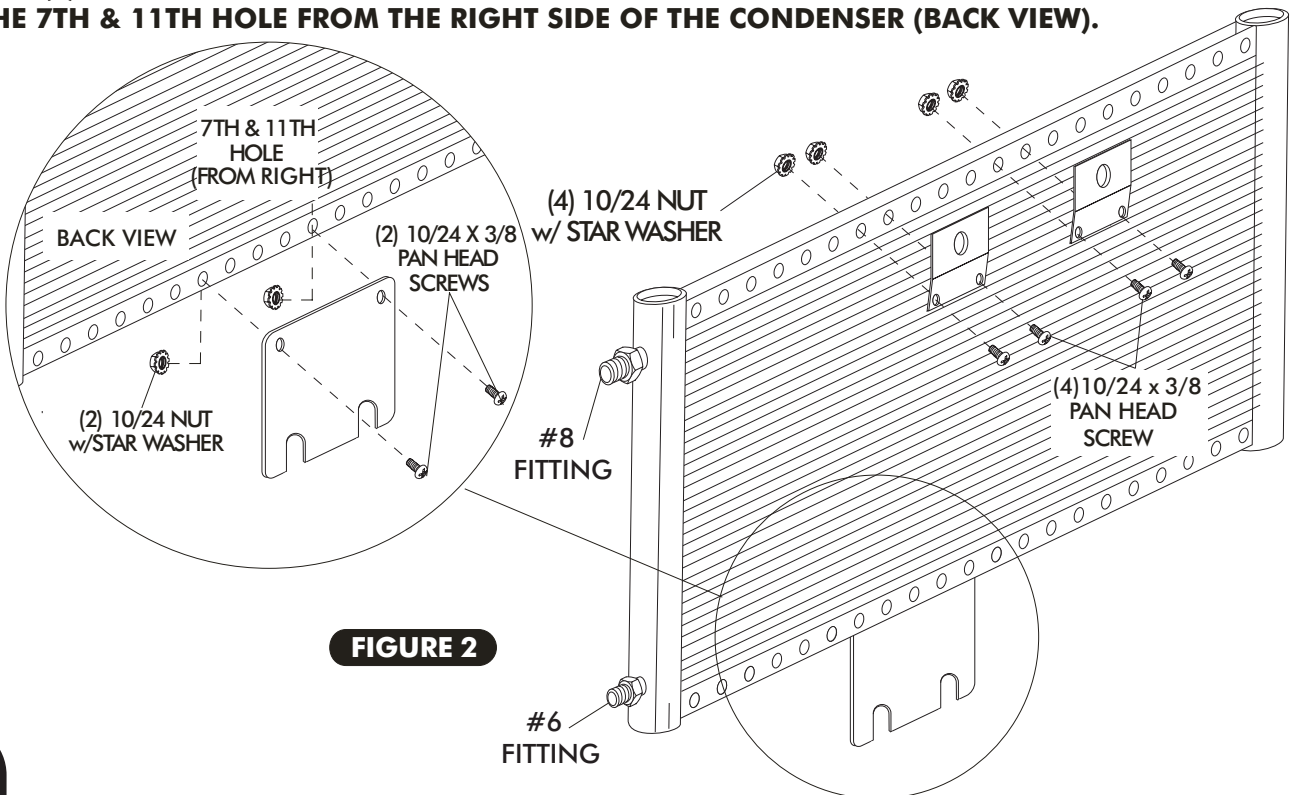

FIGURE 2
- INSTALL TOP MOUNTING BRACKETS ON TO CONDENSER USING (4) 10/24 X 3/8 PAN HEAD SCREWS AND (4) 10/24NUTS WITH STAR WASHERS. SEE FIGURE 2 BELOW. **NOTE BRACKETS MOUNT THROUGH THE 7TH & 8TH AND 12TH & 13TH HOLE FROM THE LEFT SIDE OF THE CONDENSER.**
- INSTALL BOTTOM MOUNTING BRACKET ON TO CONDENSER USING (2) 10/24 X 3/8 PAN HEAD SCREWS AND (2) 10/24 NUTS WITH STAR WASHERS. SEE FIGURE 2 BELOW. **NOTE BRACKET MOUNTS THROUGH THE 7TH & 11TH HOLE FROM THE RIGHT SIDE OF THE CONDENSER (BACK VIEW).**